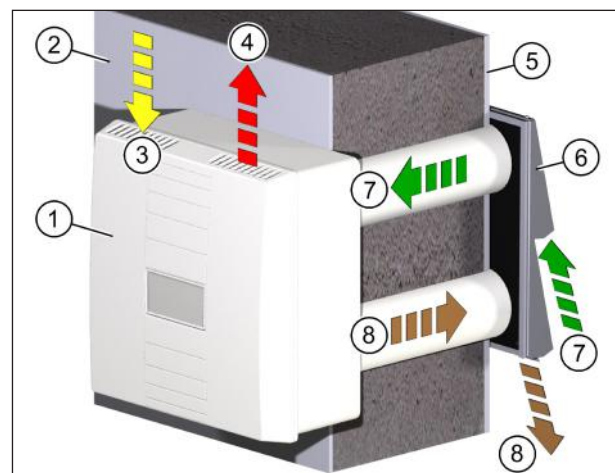
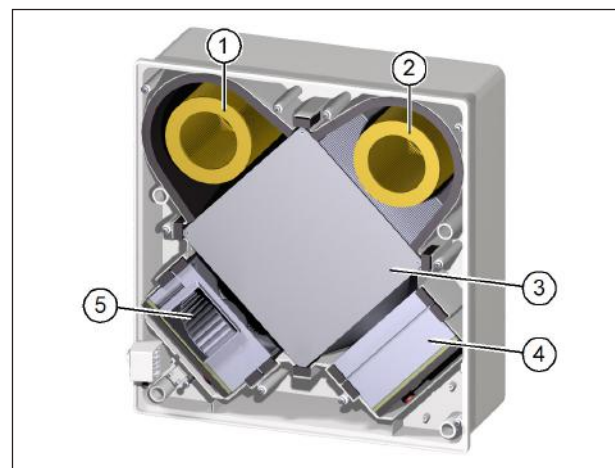

Fig. 7: How the ventilation unit works
Fig. 8: Components for air exchange
The supply air fan (item 5 in Fig. 8) transports outdoor air (item 7 in Fig. 7) through the supply air filter (item 2 in Fig. 8) and cross-flow plate heat exchanger (item 3 in Fig. 8) into the interior as supply air (item 4 in Fig. 7). The extract air fan (item 4 in Fig. 8) simultaneously extracts the extract air (item 3 in Fig. 7) from the interior. In the extract air filter (item 1 in Fig. 8), the extract air is cleaned, guided through the heat exchanger and carried outside as exhaust air (item 8 in Fig. 7).